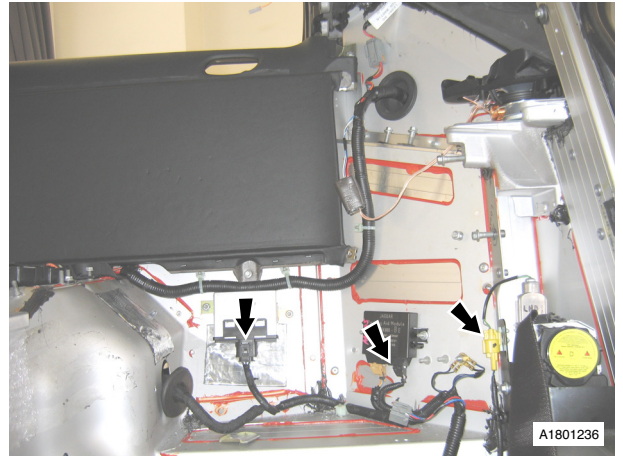

Fig. 12
44. Disconnect Fuel pump module, parking aid module (x2) and pre-tensioner multiplugs (clipped to body) (see Fig. 12).